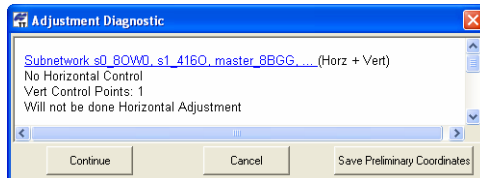

Figure 6-19. Only Vertical Control Point(s)
- If only vertical control point(s) are found, the adjustment process stops and the *Adjustment Diagnostic* dialog box will display (Figure 6-19). Click **Continue** to perform ONLY a vertical adjustment of the network.